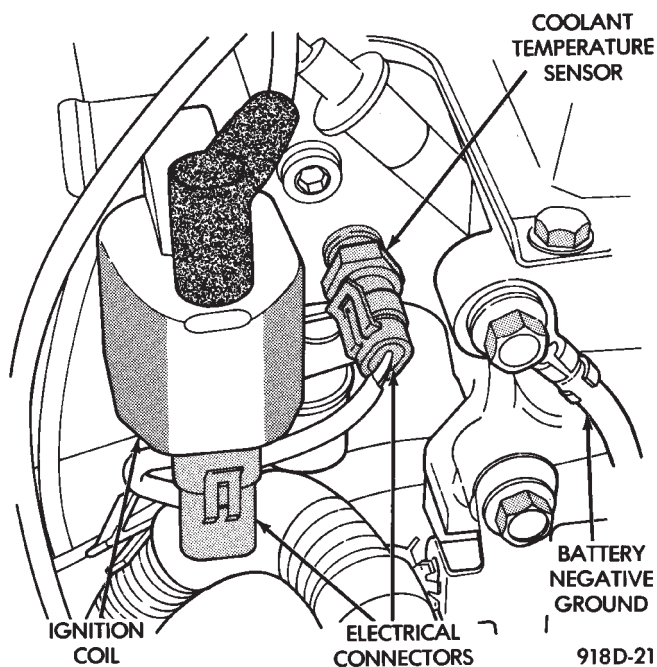

Fig. 14 Coolant Temperature Sensor
(20) Verify the electrical connector is attached to coolant temperature sensor (Fig. 14).
(21) Verify battery negative ground eyelet is mounted to the cylinder head (Figs. 14).